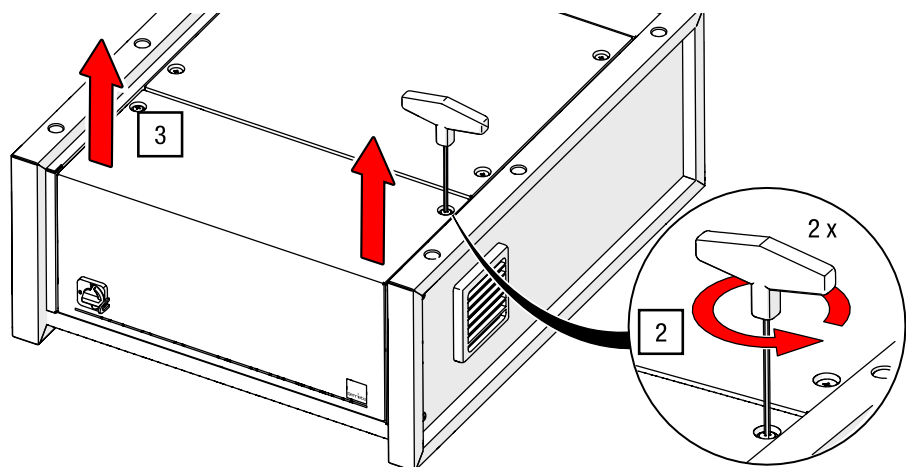

Fig. 29: Loosen and lifting the control panel (model may vary)
G-FRAME control unit	- The control panel is mounted on the front of the horizontal control unit (see Fig. 29). - The control unit is disconnected from the mains supply.
2. Loosen the control panel screws on both sides using the HEX AF 3 (see Fig. 29).
3. Lift the control panel off the control box (see Fig. 29).